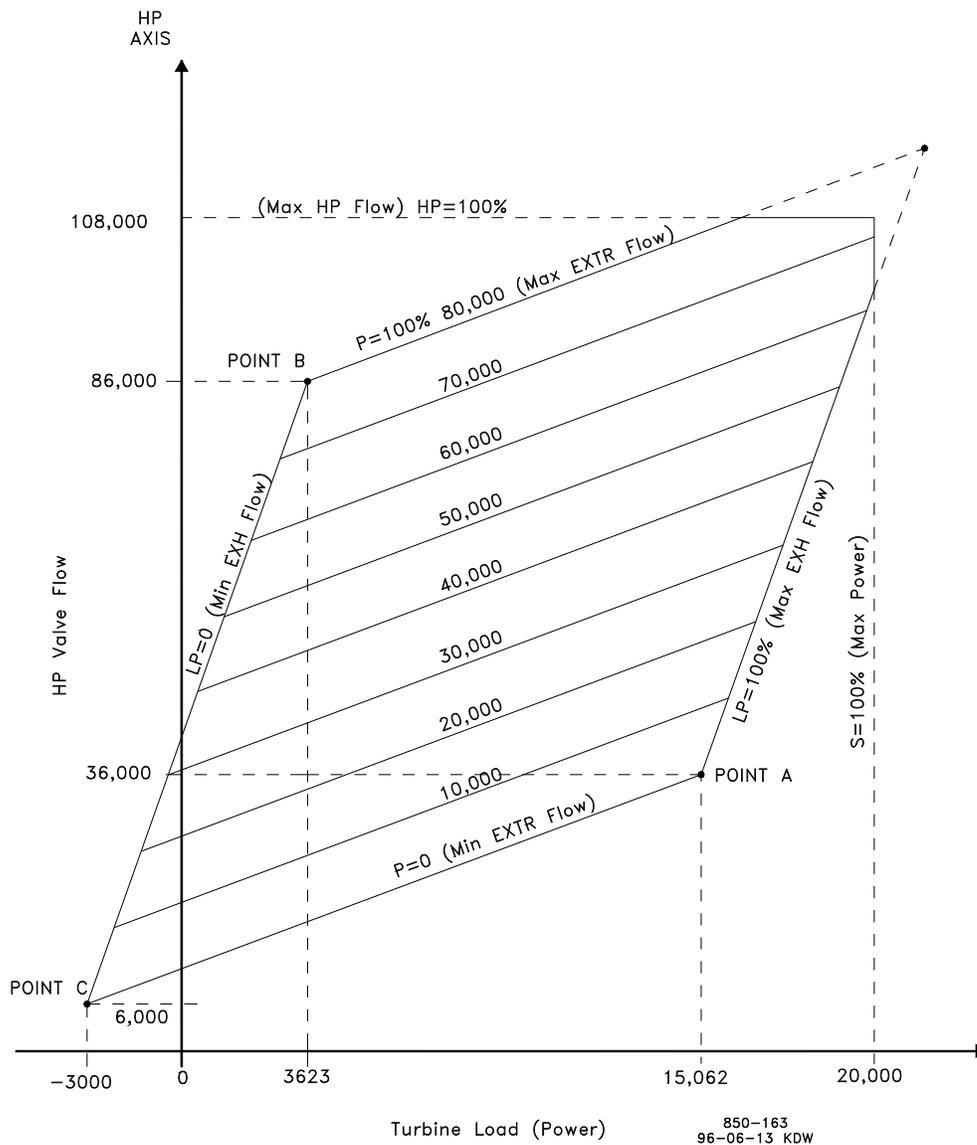

Figure 3-23. Typical Extraction Steam Map
Before a turbine's admission steam map can be programmed into the control, it must have the intersection points A, B, & C (refer to Figure 3-23).
If only point A exists, your map must be modified to include points B & C. The LP=0 line will need to be created. To create the LP=0 line, you must know the minimum required steam flow through the back end of the turbine. Based on the example steam map (Figure 3-23), the minimum required flow was 10 000 lb/h (4536 kg/h).
1. Extend the zero admission (or induction) line ( $p=100\%$ ). Refer to Figure 3-23.
The nine values needed can be taken from the converted steam map. An example has been provided using the steam map in Figure 3-23.
Before a turbine's extraction/admission steam map can be programmed into the control, it must have the intersection points A, B, & C (refer to Figure 3-23).